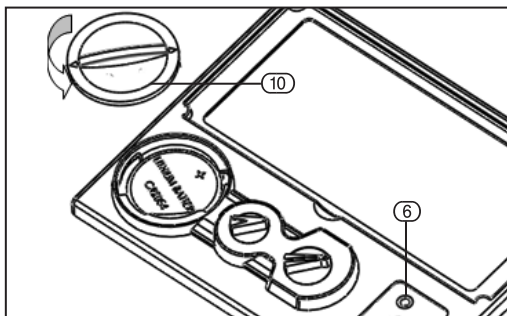

FIG. 8
7.6 BATTERY REPLACEMENT – FIG.8